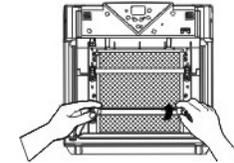

Fig. 17
6. Gently rotate the bulb one quarter turn clockwise until the bulb pins unlock from the socket. (Fig. 17)